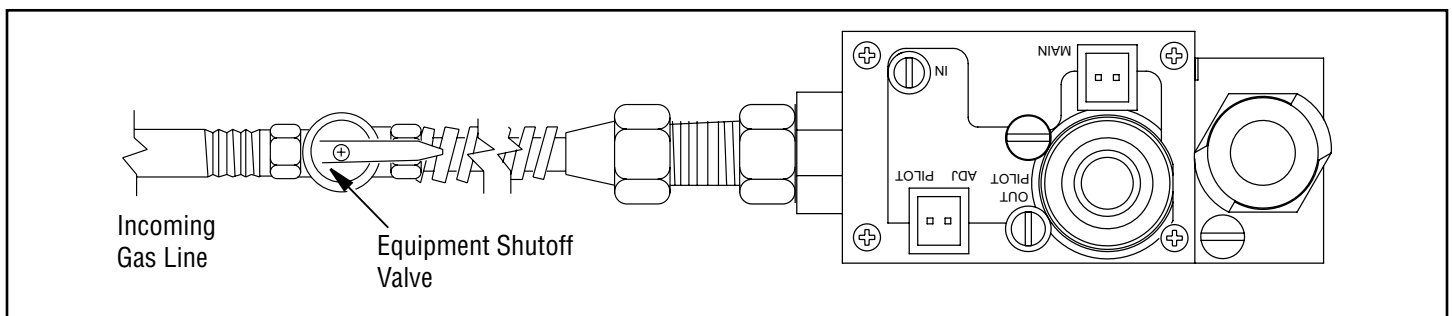

Figure 47 - Turning Equipment Shutoff Valve to the OFF Position
5. Turn equipment shutoff valve clockwise ↻ to the OFF position (see **Figure 47**). Do not force.
6. Wait five (5) minutes to clear out any gas. Then smell for gas, including near the floor. If you smell gas, STOP! Follow "B" in the safety information. If you don't smell gas, go to the next step.